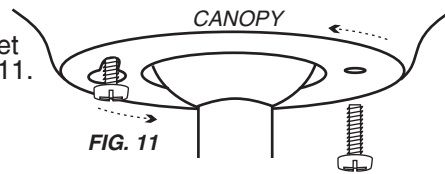

FIG. 11
V. With the motor in place and the wires out of the way, slide the canopy up to the hanging bracket. The canopy screw in the bracket will come through the large end of the key slot in the canopy. Fig. 11. Turn the canopy slightly, counter-clockwise, to hold in place, and insert remaining canopy screw. Tighten the screws.